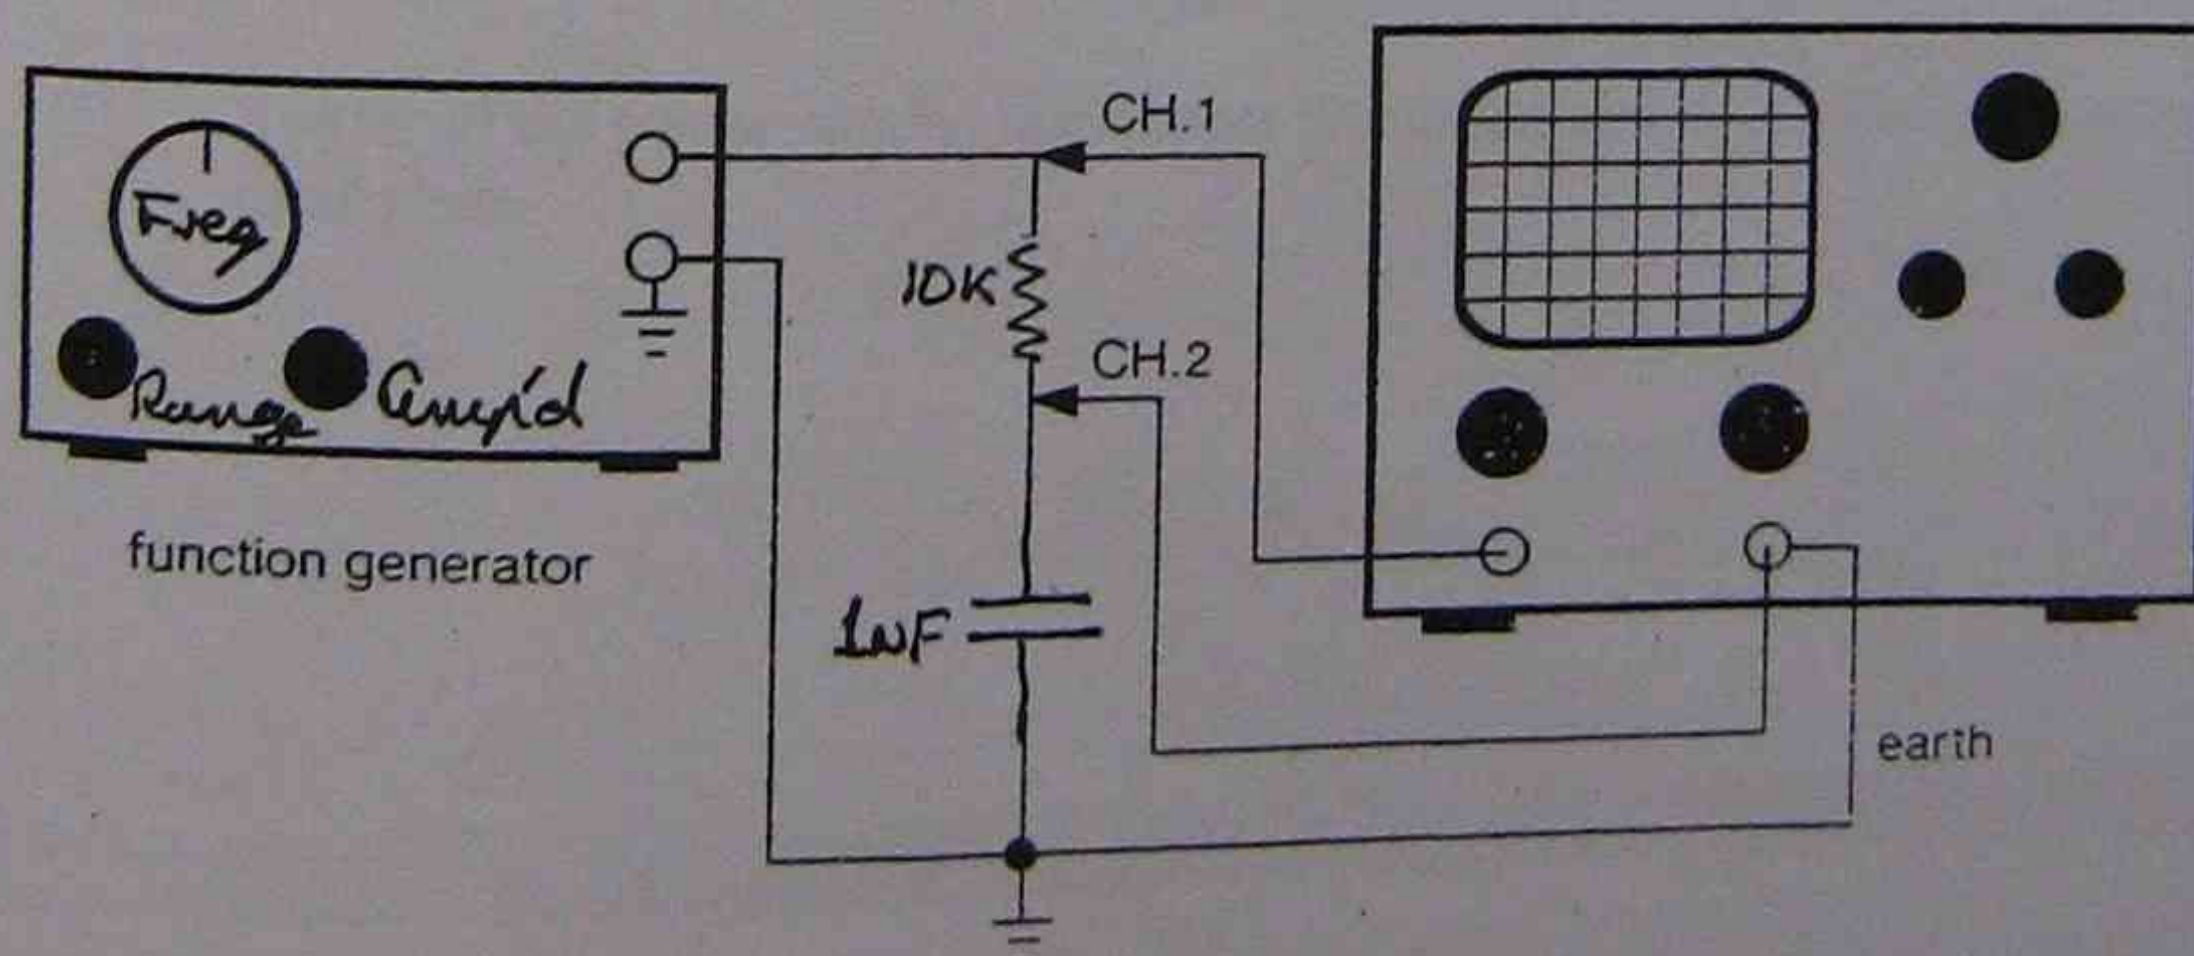

Fig.5: Measuring phase difference
- (a) Connect the circuit of Fig.5. Make sure the earth of the CRO and the function generator connect together and to the bottom of the 10k resistor.